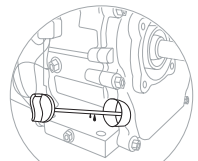

IMAGEN 1
- VERIFIQUE EL NIVEL DE ACEITE DEL MOTOR;(IMAGEN 1)